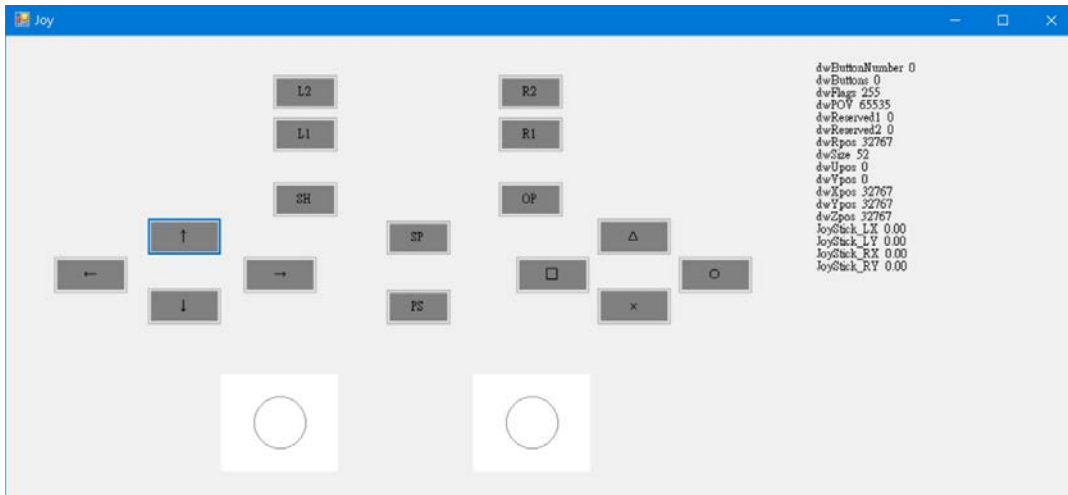

Fig. B4 The interface of exact joystick.
- If you have one joystick, you can operate the robot arm based on Tele operation after executing the application program. Fig. B4 is the interface. We have test joysticks Logitech Gamepad F310 and SONY Model CUH-ZCT2G successfully.